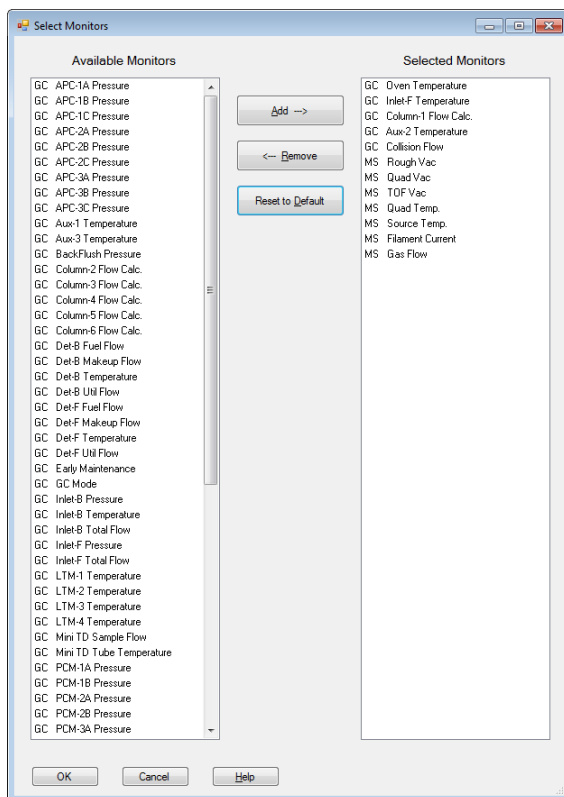

Figure 5 Select Monitors dialog box
- 1 Select **Instrument > Edit Monitors** to display the **Select Monitors** dialog box. See Figure 5.